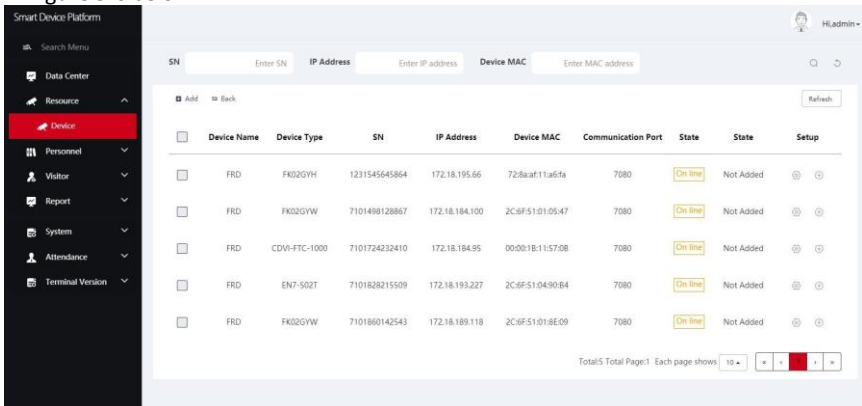

Figure 5-6
Step 2: Click "Search Device", click the "⚙️" icon of the device to be added, as shown in Figure 5-6 below.